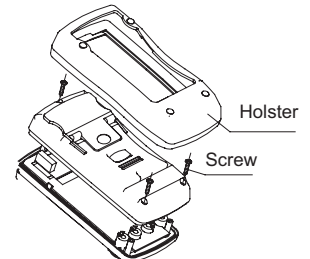

Figure 9
B. Replacing the Fuses (See Figure 9)
C. Replacing the Battery (See Figure 9)